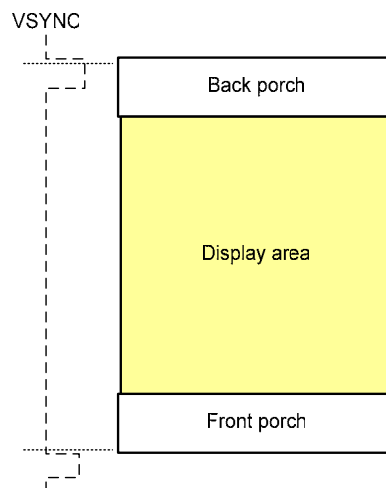

Figure 5-7 Front porch and back porch function diagram
In external display interface mode, a back porch (BP) period starts on the falling edge of the VSYNC signal, followed by a display operation period. After driving the number of lines set with NL bits, a front porch period starts. After the front porch period, a blank period continues until the next input of VSYNC signal. Be aware that different interface mode, has different BP/ FP setting. **Figure 5-7** summarized the setting for each interface mode.